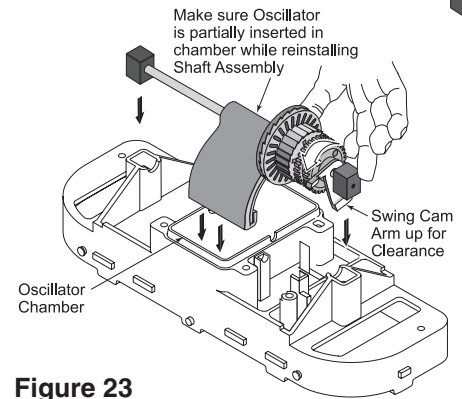

Figure 23
3. Install the long gear shaft and end blocks in the cleaning head with the large arm of the cam down (**see Figure 23**).